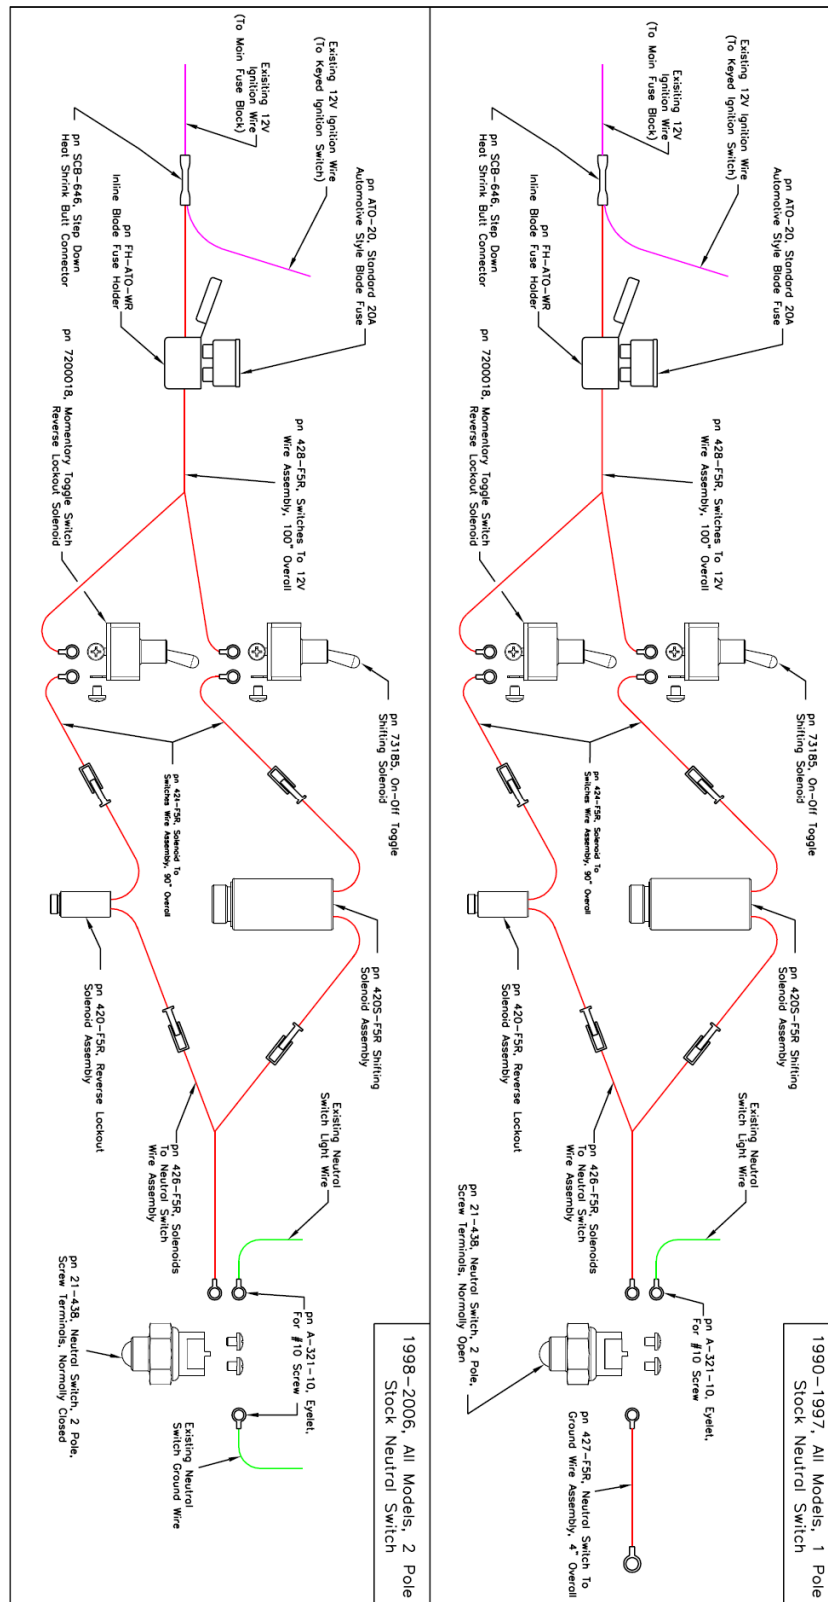

FIGURE 17
Based on the year and model of your motorcycle there are 2 different configurations of the same basic wiring harness used, as laid out in Figure 17. The following steps will lay out, in detail, how to install the various wires and switches.
- 2) Locate the solenoid toggle switch wires (PN 424-F5R) and run them up through the battery box from the transmission, up the back bone under the gas tank and by the neck to the toggle switches. Take care to make sure the wires are securely in place to prevent, chaffing, binding or pinching. Before sliding all 4 wires into the switch housing (PN 422-F5RB), slide the provided protective sleeve over the wires. (refer to figure 17)
- 5) Install the neutral switch to solenoid ground wire (PN 426-F5R) as shown in Figure 17. Also install the other neutral switch terminal wire at this time as shown in Figure 17. (Model year dependent).